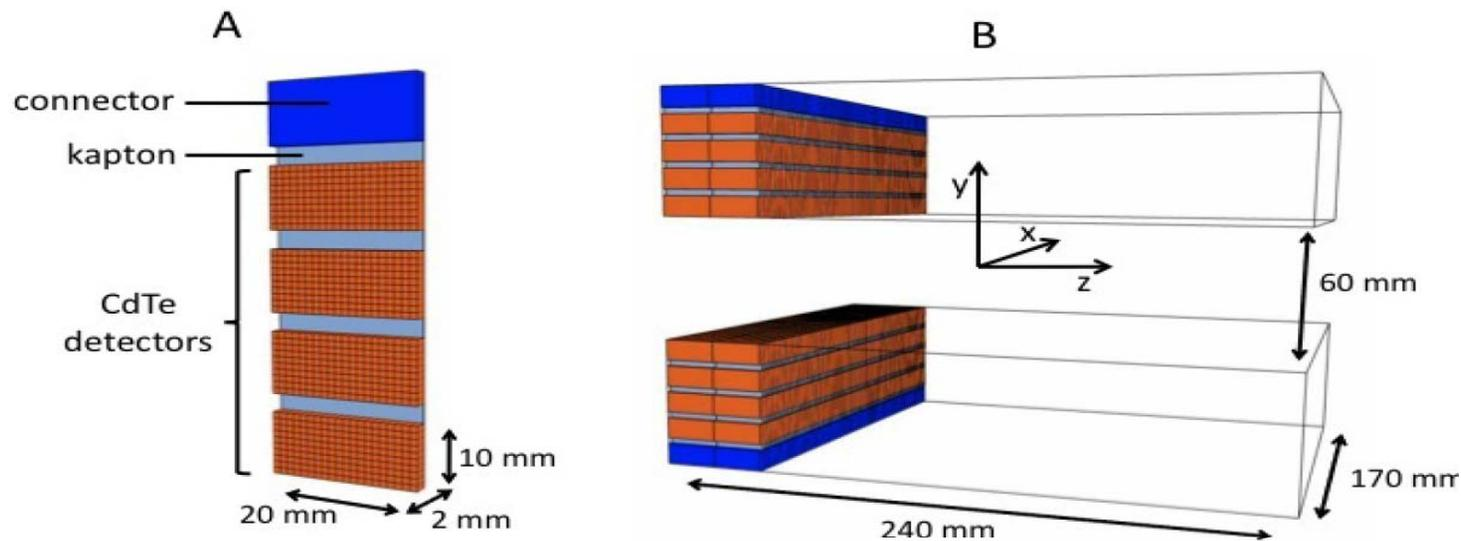

Figure 1. Basic unit detector and detector specifics.
FIGURE 1. (A) PEM Flex Solo II system. (B) Close-up of detectors. (C) Illustration of in-planes and cross-planes. Four cardinal positions (i, ii, iii, and iv) within PEM Flex FOV used to investigate quantification consistency.